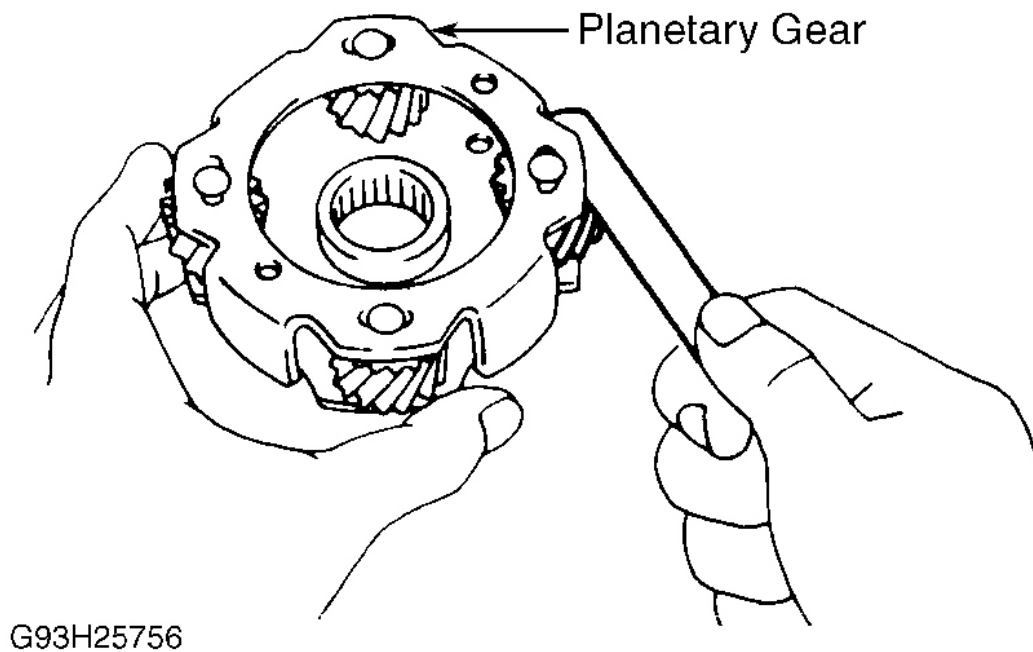

Fig. 25: Measuring Planetary Pinion Gear Thrust Clearance
2. Measure planetary pinion gear thrust clearance. Standard clearance is .0063-.0220" (.160-.560 mm). See **Fig. 25** . Maximum clearance is .024" (.61 mm). If clearance exceeds specification, replace planetary gear assembly.